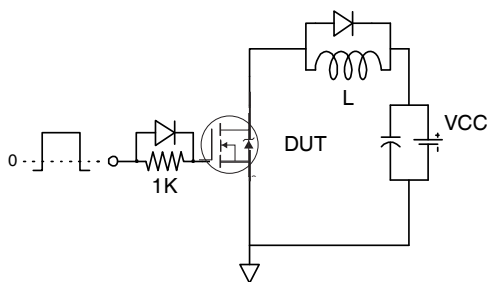

Fig 14a. Gate Charge Test Circuit
| Q_g | Total Gate Charge | — | — | 34 | nC | $I_D = 6.0A$ $V_{DS} = 400V$ $V_{GS} = 10V$, See Fig. 14a & 14b ④ |